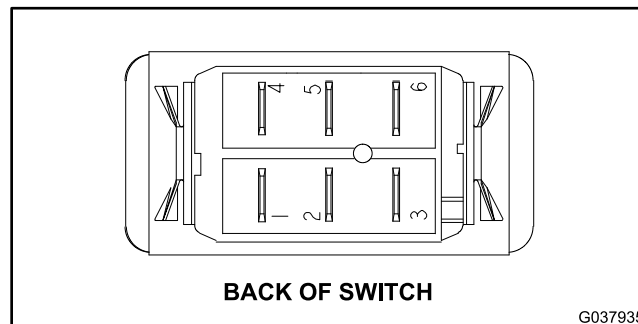

Figure 209
7. The deck lift switch terminals are identified in Figure 209 and the circuitry of the switch is shown in the Circuit Logic Table \(page 5–65\). With the use of a multimeter (ohms setting), test the switch functions to determine if continuity exists between the various terminals for each switch position. Check the continuity between the switch terminals.